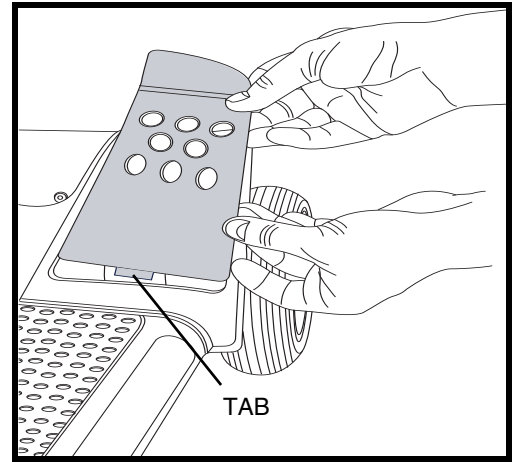

Figure 13. Front Fender Panel
2. Push through the hole to separate the piece from the Travel Scooter. See figures 13 and 14.
NOTE: When installing the front and rear fender panels, make sure the tab at the bottom of each panel is inserted into the tab opening before securing the panel. See figure 13.